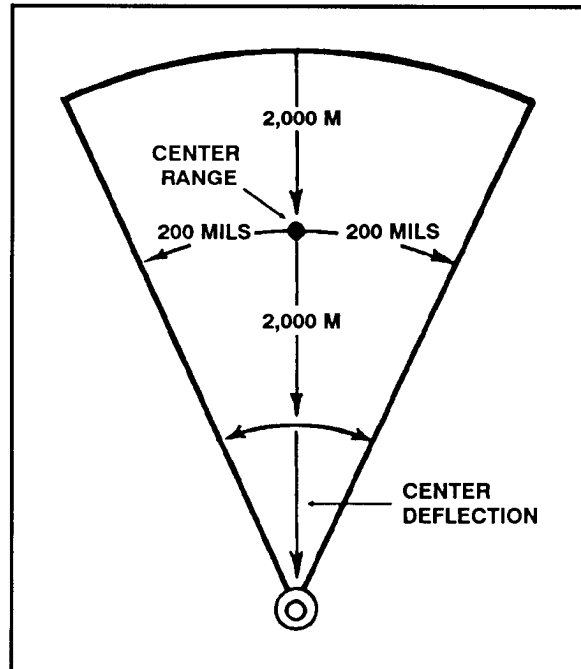

Figure G-5. Transfer limits of TMPCs.
d. The TMPCs are most accurate at the range and direction for which they were computed. They are considered valid 2,000 meters over and short of the center range and 200 mils left and right of the center azimuth of the sector (Figure G-5).
(1) The TMPCs provide acceptable sheafs on targets as long as the platoon position is within the dimension parameters below: